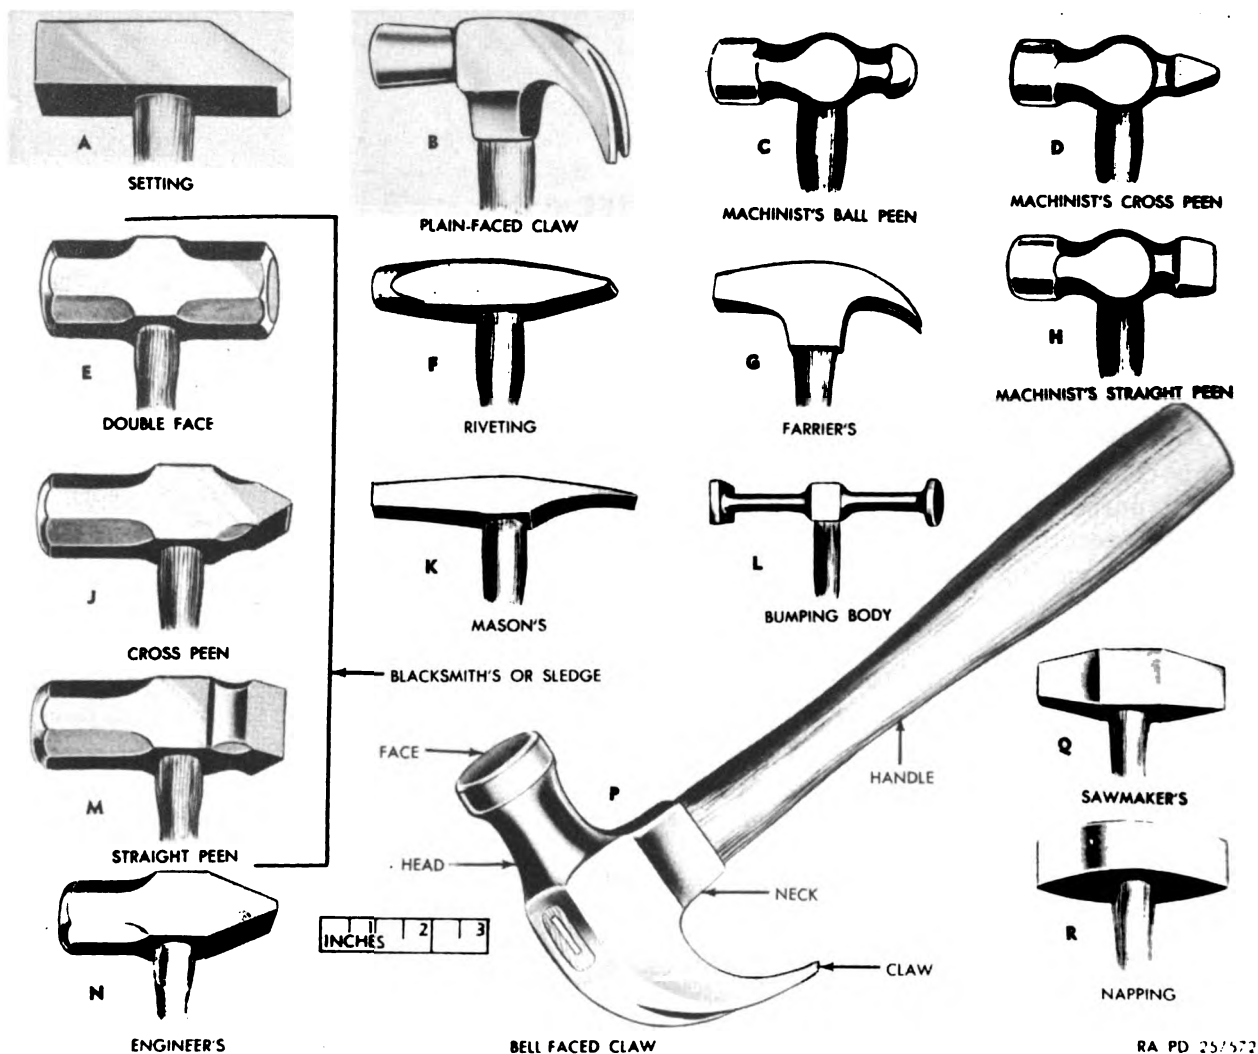

Figure 102. Types of hammers.
89. Purpose of Hammers and Mallets (figs. 102 and 103)
a. Carpenter's Hammers. A carpenter's hammer is a steel-headed, wood-handled, nail-driving tool. There are two types of carpenter's hammers. Both types have claws at the back of the hammer head for pulling nails. However, the difference between them lies mainly in their faces. One type has a flat face and is known as a plain-faced claw hammer (B, fig. 102). The other type has a rounded or convex face and is known as a bell-faced claw hammer (P, fig. 102). Carpenter's hammers are issued in 7-ounce, 10-ounce, and 1-pound sizes.
- (1) *Ball-peen hammer.* The most common is the machinist's ball-peen hammer (C, fig. 102). It has a round ball-shaped head and is used for all general purpose work. Ball-peen hammers are classed according to the weight of the head without the handle. They usually weigh 2, 4, 8, or 12 ounces, or 1, 1½, 2 or 3 pounds.
- (2) *Cross-peen hammer.* The machinist's cross-peen hammer (D, fig. 102) has a dull chisel head at right angles to the handle and is used for spreading or drawing out metal. This hammer is issued in 3-, 6-, 8-, 10-, and 12-pound sizes.
- (3) *Straight-peen hammer.* The Machinist's straight-peen hammer (H, fig.
c. Mason's Hammer. The mason's hammer (K, fig. 102) has a flat face on one end of the head and a long chisel-like blade on the other. This hammer is used for cutting brick.
d. Napping Hammer. The napping hammer (R, fig. 102) has two narrow tapered faces. The head is made of high carbon steel. This hammer weighs 3 pounds and is used to nap or shape the surface of stones.
e. Riveting Hammer. The riveting hammer (F, fig. 102) is used to peen the ends of rivets and to upset rivets. The round face is used for peening and the narrow tapered, chisel-like face is used to upset rivets.
f. Sawmaker's Hammer. The sawmaker's hammer (Q, fig. 102) is used to set the teeth in saws when a setting tool is not available. The saw is placed with its teeth against a small beveled anvil and the teeth are driven against the bevel with the hammer to set the teeth at the proper angle.
g. Setting Hammer. The setting hammer (A, fig. 102) is used for bending and leveling metal edges and for setting double seams in sheet metal.
chipping and small hand rock drills when drilling holes in rock. Long handled sledge hammers are used to break rock and concrete, to drive spikes and bolts, to strike rock drills and chisels, and to drift heavy timbers. The handle is usually made of the best grade clear-grain hickory, ash, or maple; completely free from defects. Some sledge hammers have a double face (both sides alike) (E, fig. 102), cross-peen (J, fig. 102), or straight-peen (M, fig. 102) faces, usually made in sizes from 6 to 20 pounds, having handles 30 to 36 inches long.
i. *Bumping Body Hammers.* A bumping body hammer (L, fig. 102) is used for straightening and bumping metal. The hammer shown has one round and one square face and the head is 4 inches long. Other bumping body hammers may have an offset cross and straight-peen faces or two round faces, or an offset square face and a cross-peen face.
j. *Engineer's Hammer.* The engineer's hammer (N, fig. 102) has a cross-peen face and
k. *Farrier's Hammer.* A farrier's hammer (G, fig. 102) is used to shoe horses.